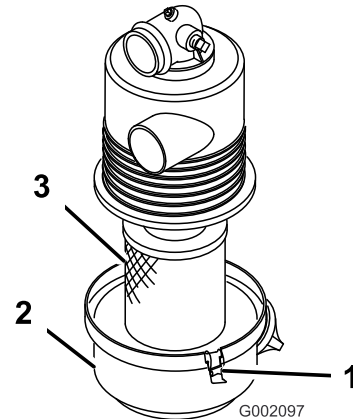

Figure 26
3. Insert the air-filter element into air-filter housing (Figure 26).
4. Align the air-cleaner cover with the air-cleaner housing, and secure the cover to the housing with the latches (Figure 26).